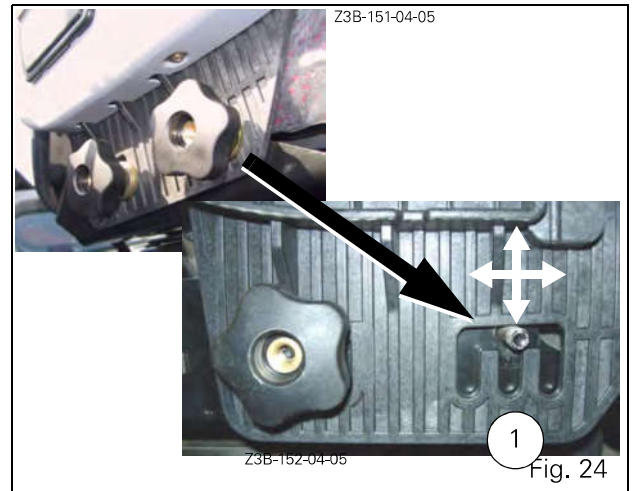

Fig. 24
The length and height of the multifunction armrest located to the right-hand side of the seat can be adjusted after loosening the thumb wheels on its underside (ref. 1 Fig. 24).